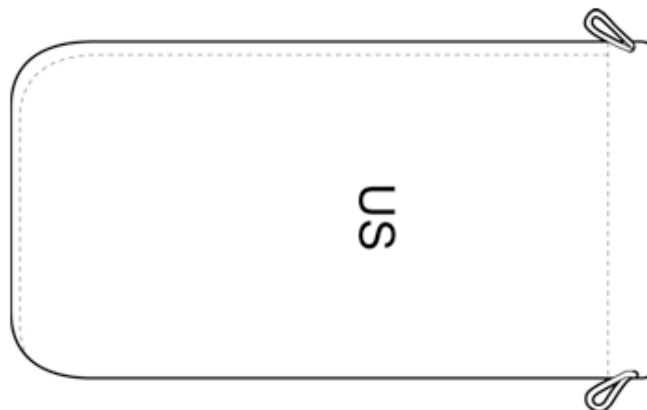

Figure 12. Barracks Bag.
**Barracks Bag.** The Barracks Bag (Figure 12) is fabricated essentially of sateen cotton cloth. It is intended for use as a laundry bag, for soiled clothing of Army personnel.